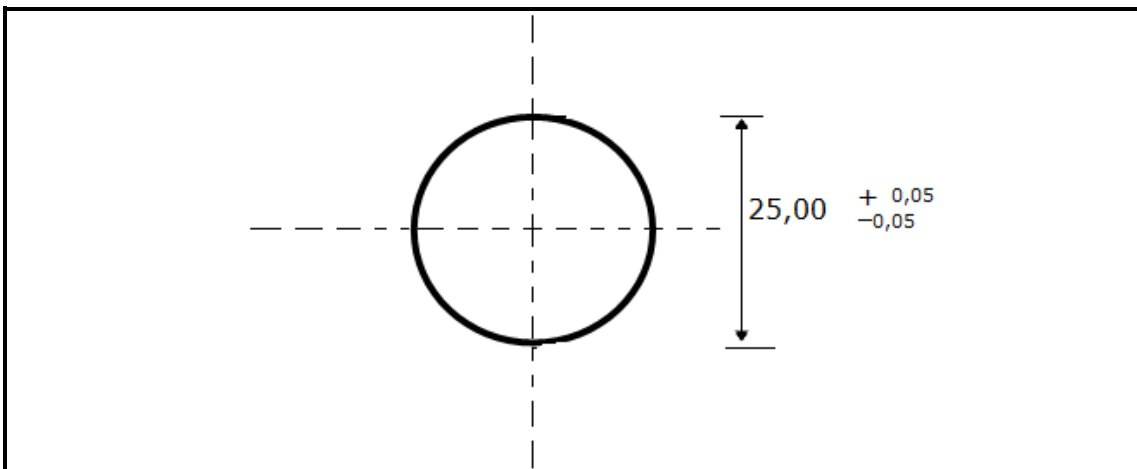

FIGURE 5
4.3 FIGURE 5 shows a workpiece with a tolerance.